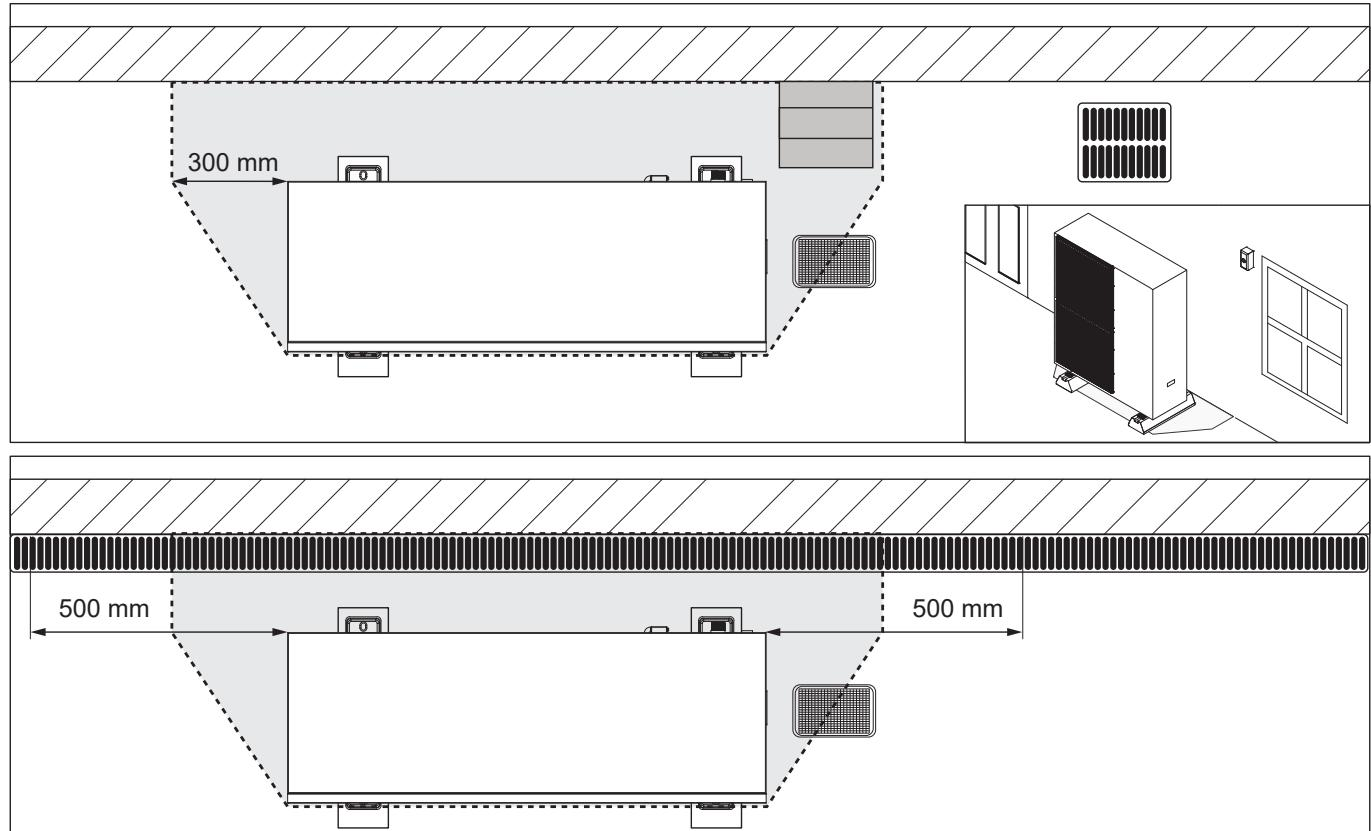

Figure 3-14: Drain zone
1. It extends a minimum of 500 mm outwards from either side of the heat pump. Refer to Figure 3-14).